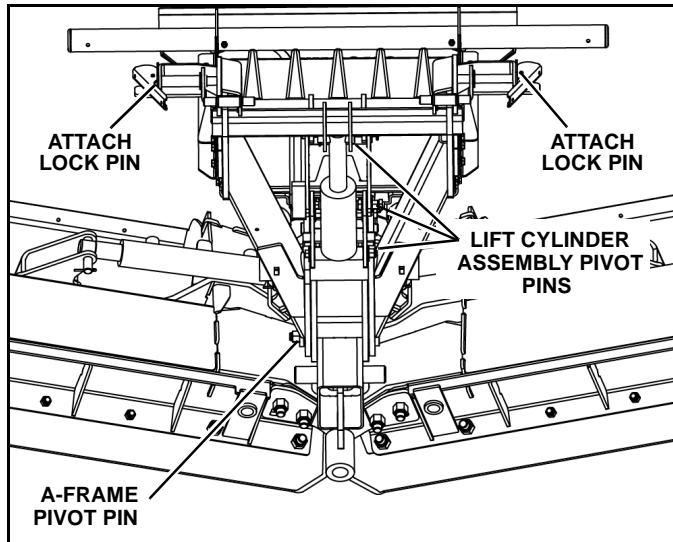

Figure 1-36 - View From Bottom
5. Apply a small amount of light oil to the lift cylinder assembly pivot pins, to front A-Frame pivot pin and both attach lock pins. (See Figure 1-36 - View From Bottom).